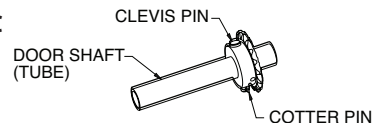

Figure 7C
- 4) Insert clevis pin through both holes and secure with cotter pin. **Fig. 7C.**